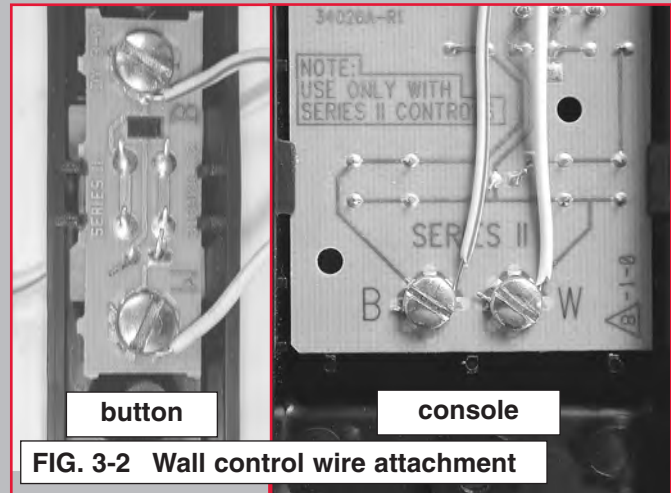

FIG. 3-2 Wall control wire attachment
- Attach **striped wire to terminal “B”**, and **white wire to terminal “W.”** (Fig. 3-2).